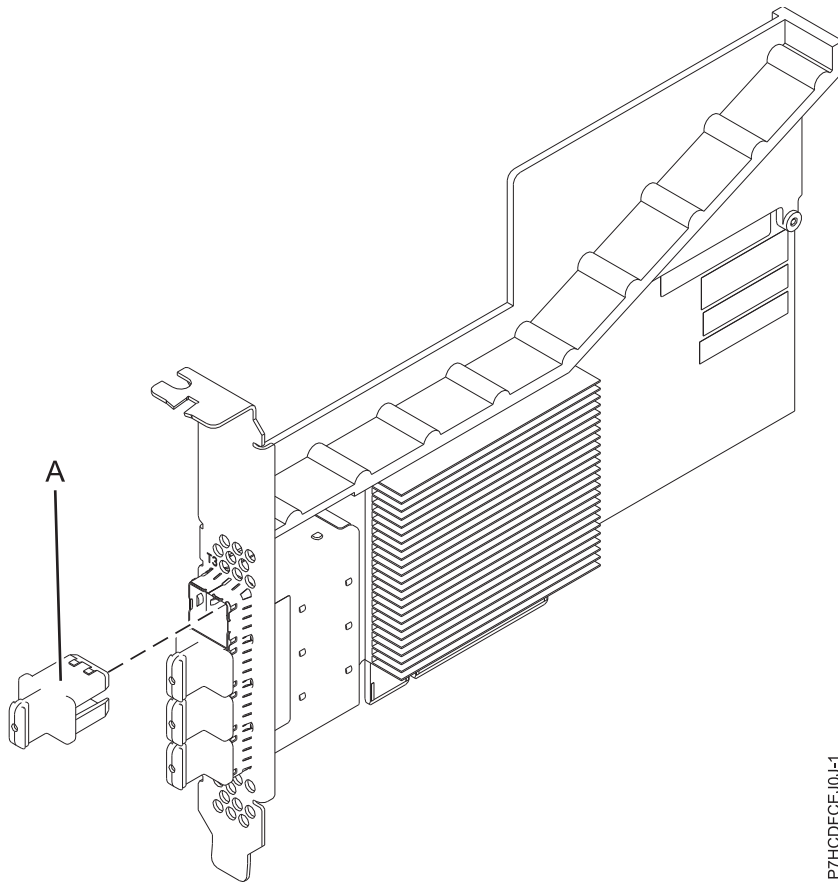

Figure 23. PCIe3 RAID SAS adapter
The PCIe3 RAID SAS quad-port 6 Gb Adapter is a PCI Express (PCIe), generation 3, RAID SAS adapter that has a low-profile, short-form factor, but packaged for full height installation. The adapter is used in high-performance and high-density, serial attached SCSI (SAS) applications. It supports the attachment of SAS disk and SAS tape by using four mini SAS high-density (HD) x4 connectors that allow the physical links to be used in various narrow and wide-port configurations. SAS tape attachment is only supported in a single adapter configuration and cannot be mixed with SAS disk on the same adapter. The adapter does not have write cache. Figure 23 on page 65 shows the PCIe3 RAID SAS quad-port 6 Gb Adapter.
Figure 23 shows the adapter. The connector plug (A) is installed in an empty port and prevents damage to that port whenever a cable for the adjacent port connectors is plugged-in or removed.